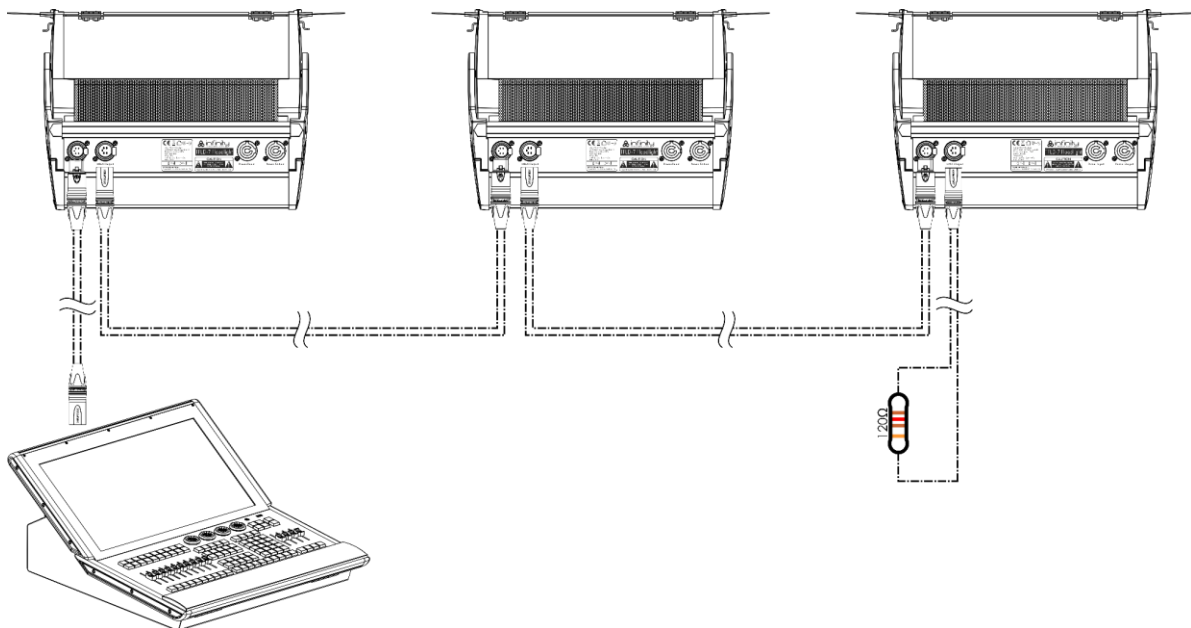

Fig. 15
- 03) Repeat step 2 to connect all devices in a daisy-chain as shown in Fig. 15.